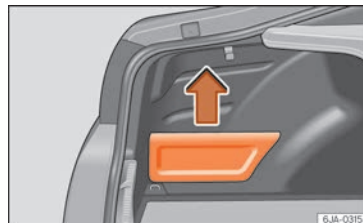

Fig. 159 Boot: storage compartment.
- Hold onto the top of the lid and pull it out in the direction indicated by the arrow >>> **Fig. 159**.